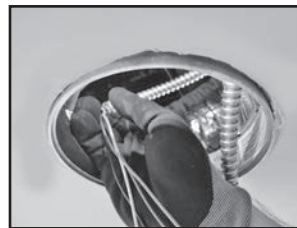

Figure 23
8. Feed supply wires from retrofit driver assembly through knock-out that was removed in junction box and insert snap-in connector into junction box (Figure 23).